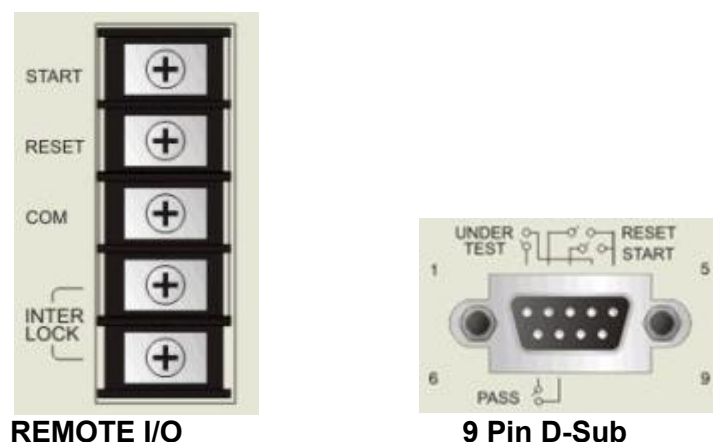

Figure 2-4
- Pin diagram of REMOTE CONTROL as *Figure 2-4*. When the tester is controlled externally, please remember this pin diagram.